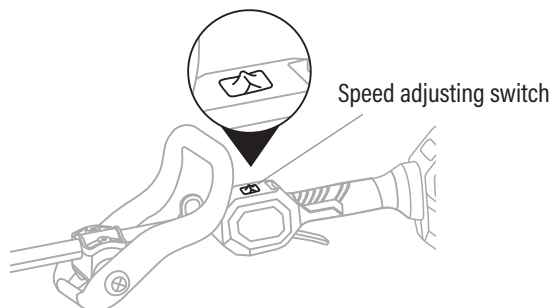

Fig.9
2. Push the speed adjusting switch to "SPORT" for step-less speed regulation from 5000-8000RPM. And to "ECO" for fixing the speed of 6000RPM. (Fig. 9)